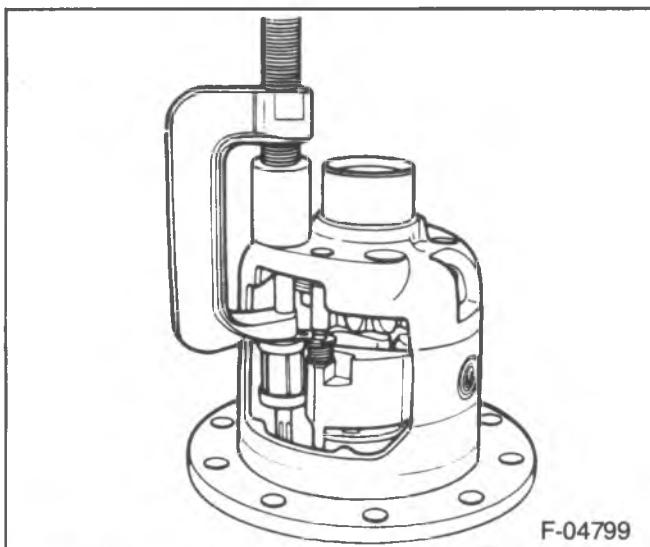

Figure 191—Removing the Governor Bushings
1. Stop pin (2). (9½-inch only.)
2. Governor bushing (4) using J-26252 (figure 191).
4. Latching bracket bushing (5) using J-26252.
5. Latching bracket (11), shaft, and spring from the case.
6. Governor assembly (11) from the case.
7. Lockscrew (3).
8. Pinion shaft (18).
9. Differential pinion gears (7) and pinion thrust washers (6).
10. Thrust block (17).